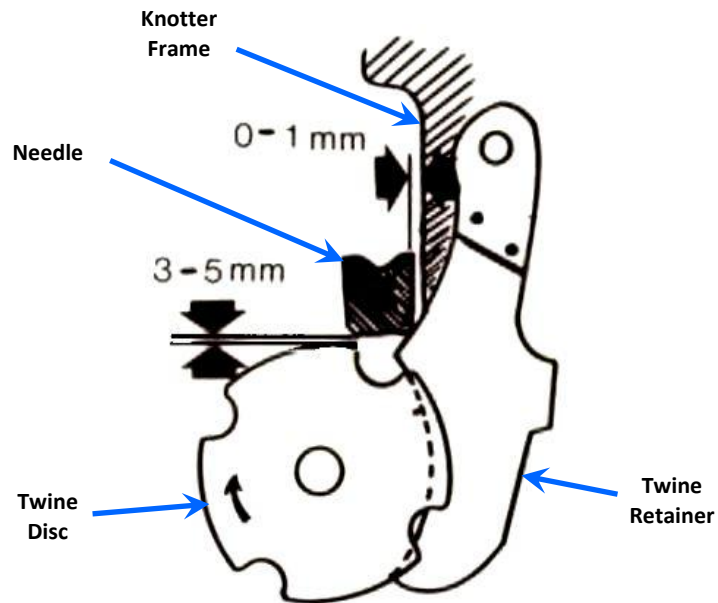
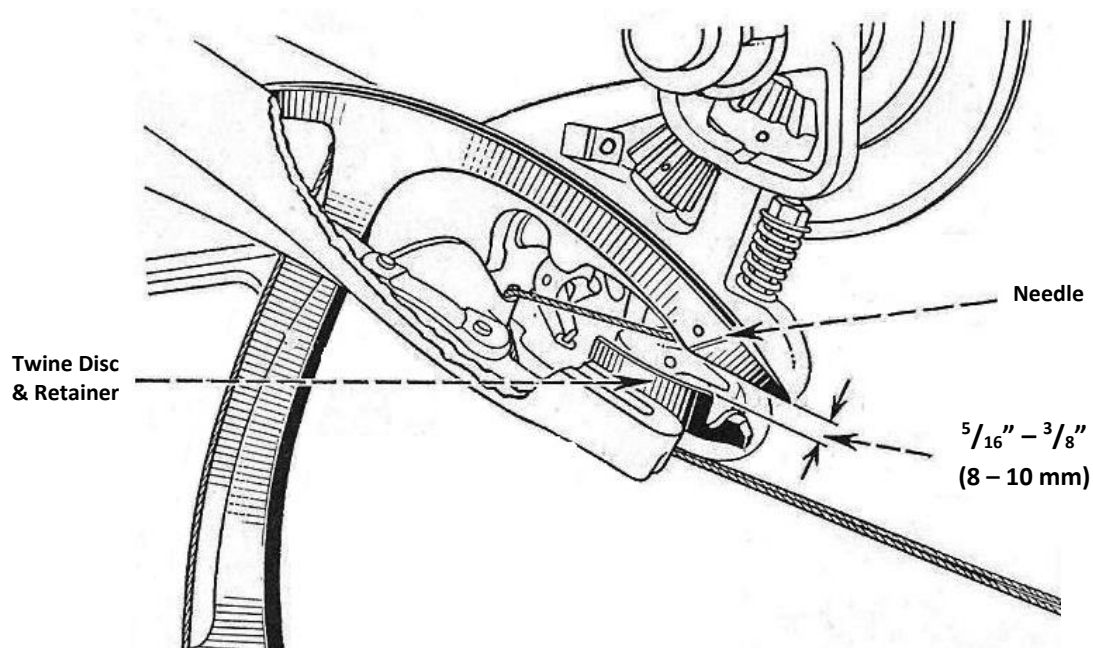
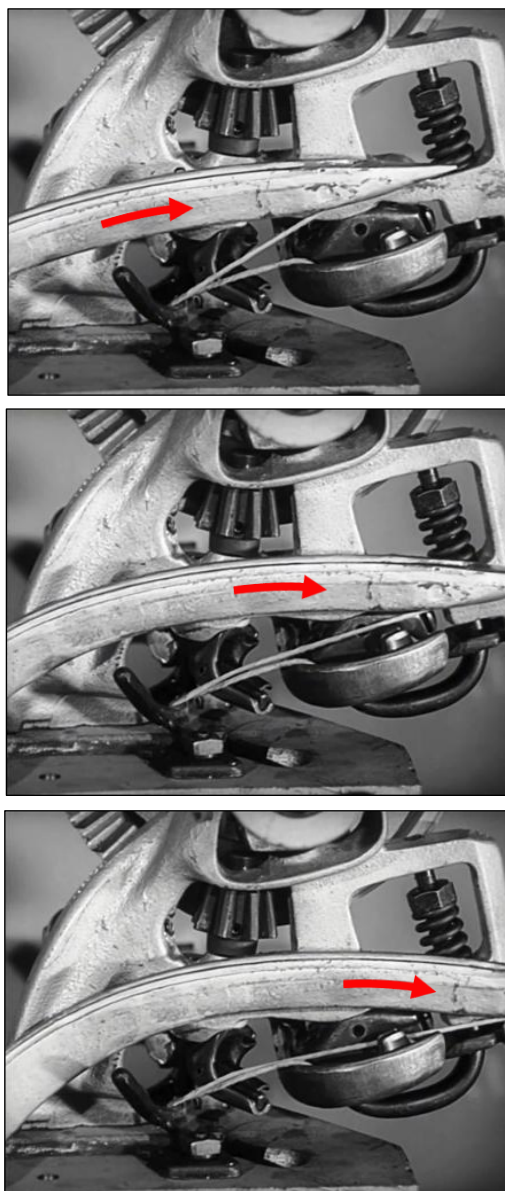

Fig.4.5 Deering-type (*New Holland*) Knotter - Recommended positioning of Needle in relation to Knotter Unit
Fig.4.6 McCormick binder knotter - Recommended vertical position of Needle relative to Knotter Unit
Fig.4.7 Twine delivery by Needle into the Twine Disc slot of a McCormick-type knotter
With few if any exceptions, the side of the Needle should rub lightly on the side of the Knotter Frame as it passes through/beside it (*Fig.4.5*). Light contact with the (*fixed/stationary*) Knotter Frame improves the Needle's lateral stability and accuracy of twine placement during the tying cycle.
- Twine strand running below the Needle (*Fig.4.6*) must be drawn down sufficiently so that it is laid in the waiting notch or slot in the Twine Disc.
The Needle moves through/beside the Knotter Frame in an arc. As it progresses the twine is drawn through either a slot or around a roller in the Needle's tip (*the 'eye'*) (*Fig.4.7 (top)*).
Rather the Needle's tip has to pass beyond the Twine Disc (*Fig.4.7 (middle)*) so that the twine strand is effectively pulled/lowered down into the slot/notch (*Fig.4.7 (bottom)*). To achieve this, both the Needle's vertical position and its travel must be correct (*see 'Needle Travel' below*).
The Needles (*tips*) of Deering-type knotters generally travel much closer to edge of the Twine Disc (*Fig.4.5*): those of McCormick-type knotters generally maintain a greater clearance (*Fig.4.6*), but rely on the needle arc of travel to lower twine into Twine Disc slot (*Fig.4.7*).
Needle Travel: the extent to which the Needle's tip passes through the Knotter Unit during the tying cycle is also of critical importance, to ensure the twine is placed correctly in the Knotter Unit (*Fig.4.7*). However: